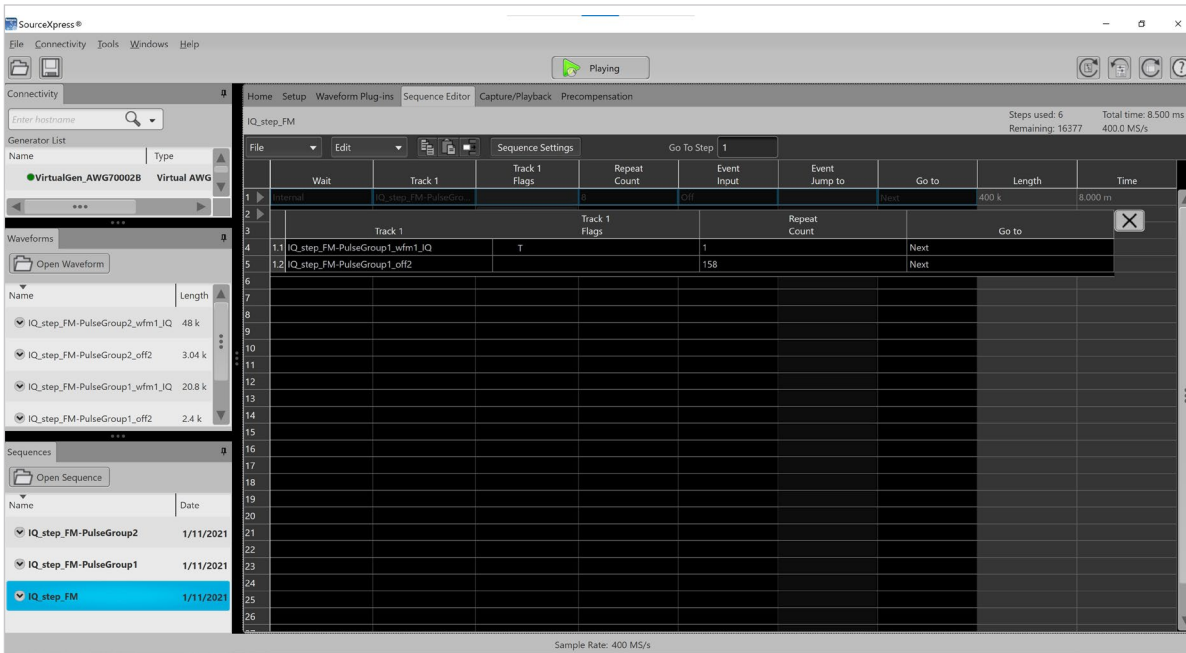

Figure 18: Baseband IQ example subsequence showing flags.
- b. Figure 18 - Baseband IQ example subsequence showing flags